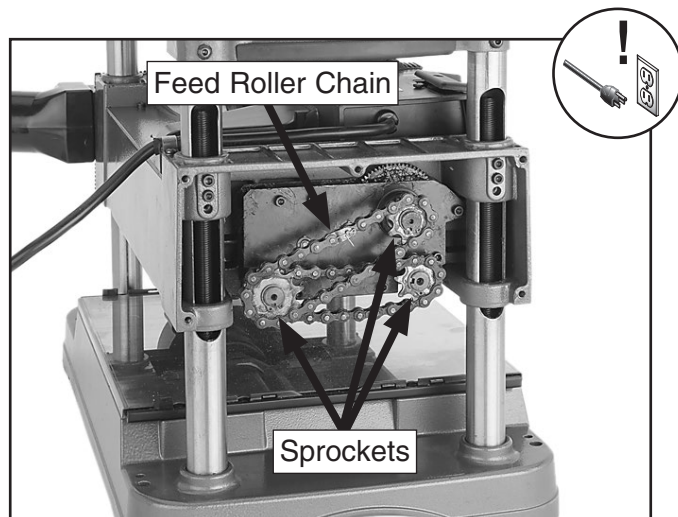

Figure 25. Cutterhead elevation leadscrews and feed roller drive chain exposed for lubricating.
2. Remove (4) M6-1 x 12 button head cap screws.
3. Remove side cover to expose chain (see **Figure 25**).